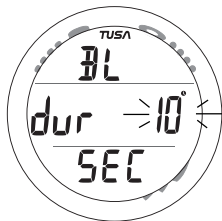

Fig. 49 - SET BACKLIGHT DURATION
**Set Backlight Duration** information includes (Fig. 49):